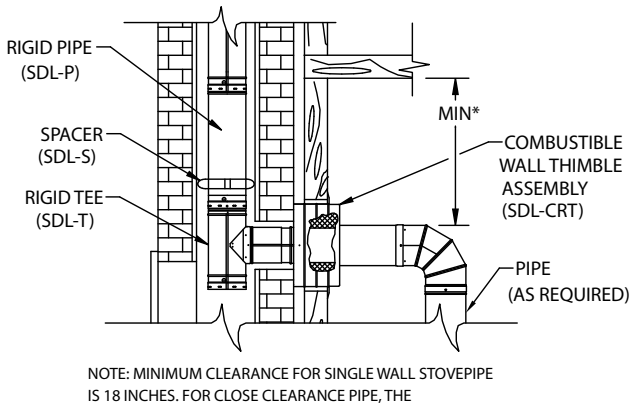

Figure 40
Step 2: If no hole exists in the masonry, mark the center point for the location of penetration into the combustible wall. Before cutting or drilling, check the clearance between the top of the connecting pipe to the ceiling, as shown in **Figure 40**. The minimum clearance for single wall pipe is 18 inches, and for Close Clearance Connector Pipe, 8 inches. The system is designed to attach to the appliance with Close Connector Pipe and Fittings. Consequently, Simpson Dura-Vent strongly recommends using this specific pipe as a connector.